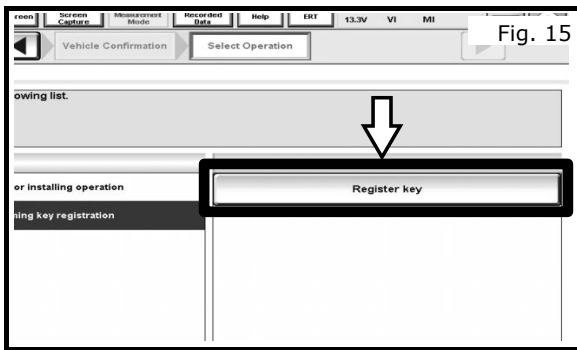

Fig. 15
- a) Once you click "When performing key registration" a new Contents of Operation selection "Register Key" will be available as shown in Fig. 15.
- b) Under Contents of Operation selection click "Register Key" as shown in Fig. 15.